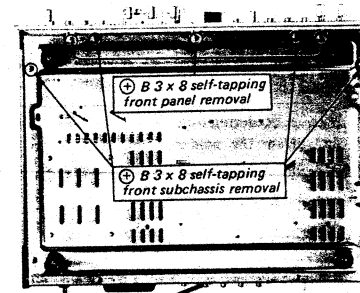

Fig. 2-1. Front panel and front subchassis removal
3. Remove the three self-tapping screws (⊕ B 3 x 8) at the front bottom of the chassis as shown in Fig. 2-1. This frees the front panel.